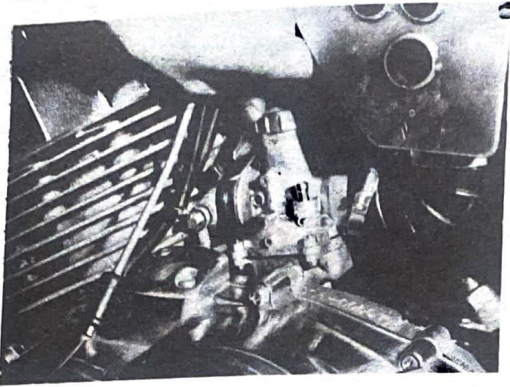

Fig. 4-1-22
18. Loosen the mixing caps, and remove the throttle valves from the carburetors. (Figs. 4-1-22 and 23)